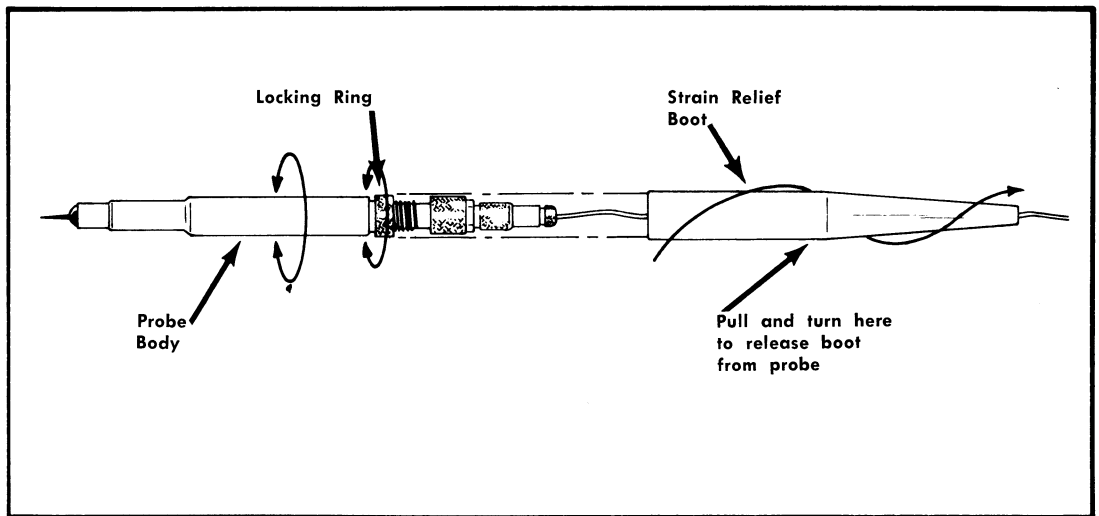

Fig. 8. Probe compensated.
- a. Grasp the strain relief boot near the middle and use a pulling and turning motion to separate it from the probe body. See Fig. 8.